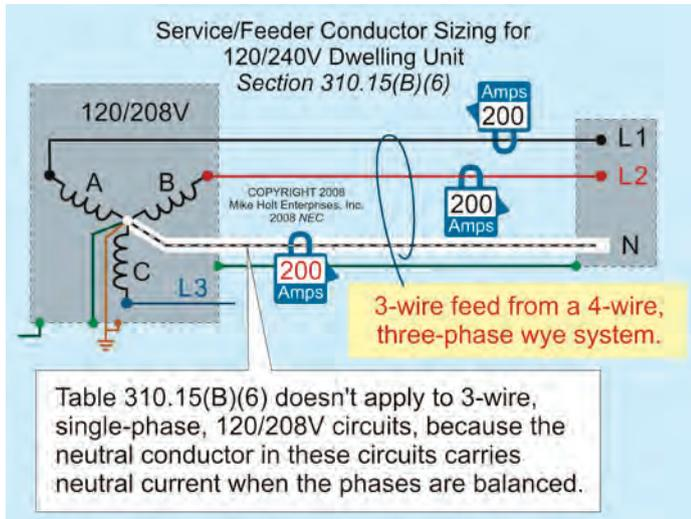

Figure 310–20
WARNING: Table 310.15(B)(6) doesn't apply to 3-wire feeder/service conductors connected to a three-phase, 120/208V system, because the neutral conductor in these systems always carries neutral current, even when the load on the phases is balanced [310.15(B)(4)(b)]. For more information on this topic, see 220.61(C)(1). **Figure 310–20**